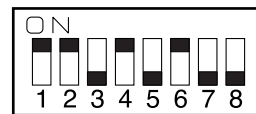

Figure 5-138
- 2) Set the DIP switch (SW1) on the ADF controller PCB as indicated in Figure 5-138.